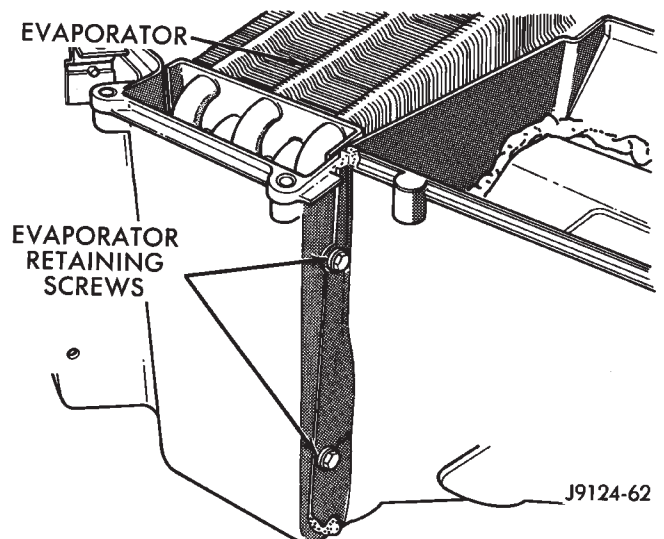

Fig. 25 Evaporator
(3) Remove the cycling clutch switch from evaporator.
(4) Remove evaporator retaining screws and lift the evaporator out of the housing (Fig. 25).